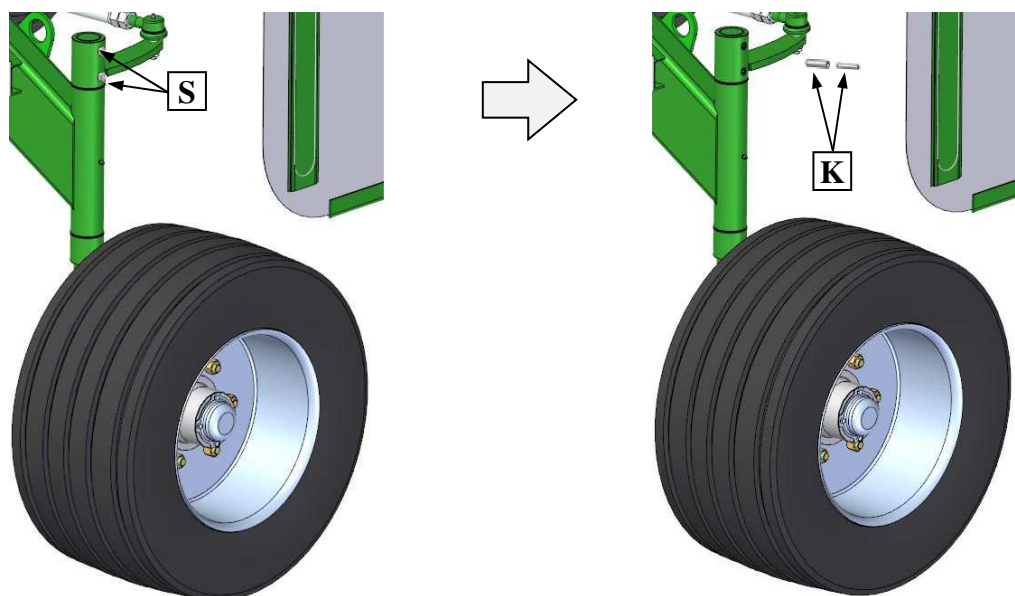

Fig. 17. Preparing drive system of the rake
Before commissioning of the rake, in driving wheels (**Fig. 17**), replace provisional bolts (S) on joints of steering heads with rear wheel axis for expansion pins Ø16 and Ø10 (K) delivered with the machine. Install the pins as shown in **Fig. 16**.